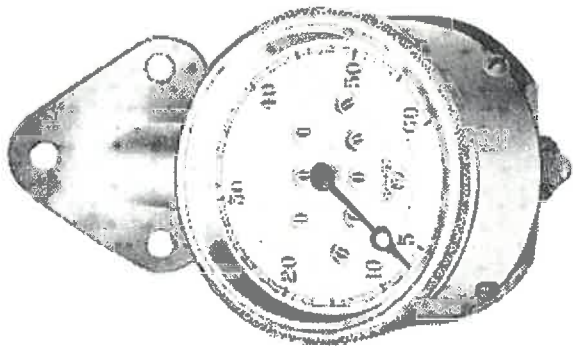

Figure 3.— Type No. AA11,
- Type AA11. Bracket model ... (Fig. 3)
DASHBOARD TYPES (similar to Fig. 3).--In these types the bracket has to be attached to the dashboard by three screws, in which case a fairly strong round-head screw should be used, or the bracket can be secured by $\frac{3}{8}$ " Whitworth bolts and nuts; the latter, however, are rather clumsy. Care should of course be taken to fix the indicator in the most advantageous position for the driver, and with due regard for the lead of the flexible shafting to the drive (see Drive Instructions).